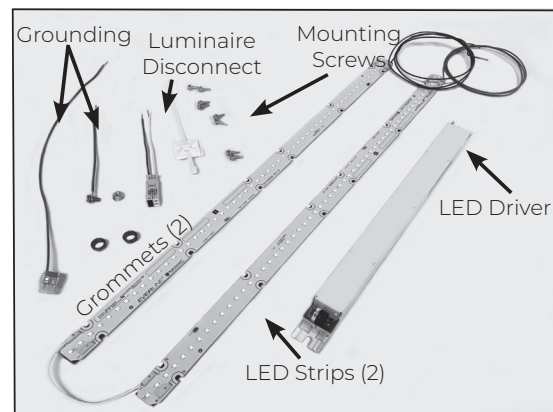

Figure 1: Multi-Purpose Installation Kit Components.
- One (1) kit is needed for retrofitting a 4-foot Vapor Tight Light Fixture.
- Two (2) kits are needed for retrofitting a 8-foot Vapor Tight Light Fixture.
3. All old lighting components should now be removed from the gear tray. Figure 1 shows all components in the Multi Purpose LED RetroFit installation kit. The two LED Strips with the magnetic backing are pre-wired at the factory to ensure the incoming power source energizes both LED Strips as follows: